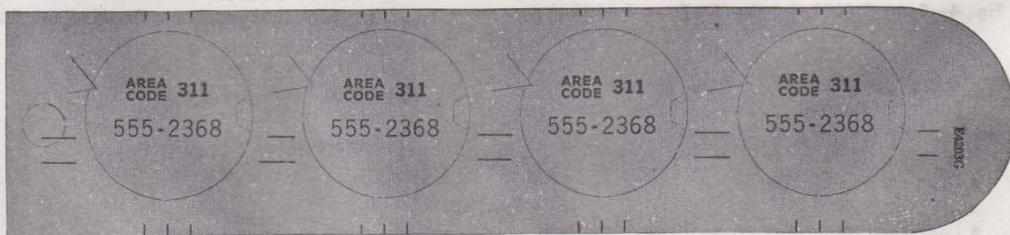

Fig. 1—Form E-4203-G (Quantity of Four)
2.01 Forms E-4203-G (Fig. 1) and E-4203-GEZ are 2-line gray number cards with three guide lines for numbering machines. Form E-4203-G is a permanent number card to be mounted in the card holder or fingerwheel. Form E-4203-GEZ has an adhesive back and is a temporary card to be pasted on the window.